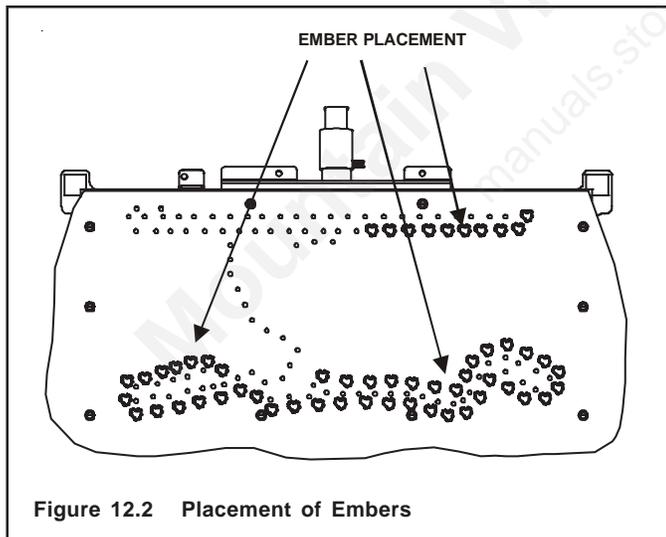

Figure 12.2 Placement of Embers
- When placing Glowing Embers® onto the burner care should be taken so that the ports are not covered. Place the dime-size ember pieces just in front of the port trail, but not on or in between the ports (see Figure 12.2). For best performance place embers on the rear burner ports as shown (see Figure 12.2). Failure to follow procedure will likely cause lighting and sooting problems.